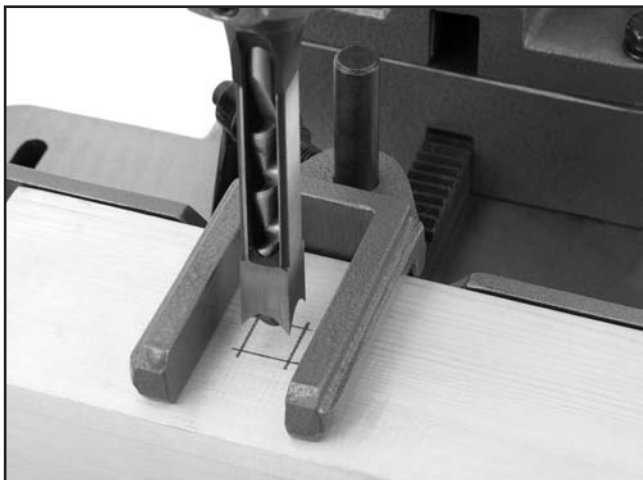

Figure 27. Aligning chisel with outline.
6. Align the chisel with the mortise outline (see **Figure 27**), turn the power **ON**, and use the hand lever to steadily feed the mortising chisel into the test piece.